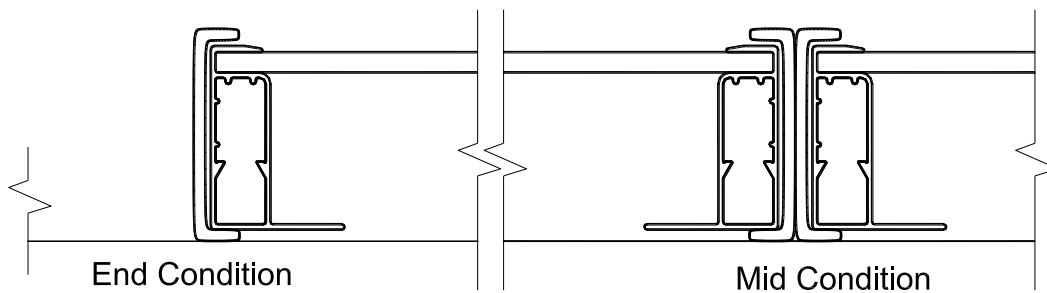

Fig. 3
- III. **Method# 3 – Insertion Style Rails** – where frame slides into and is captured by a “C” channel rail (see Fig 3), such as Solar Flex Rack or equivalent. Follow “Attachment Guidelines” in Table #1 pg. 4 for specific load configurations.